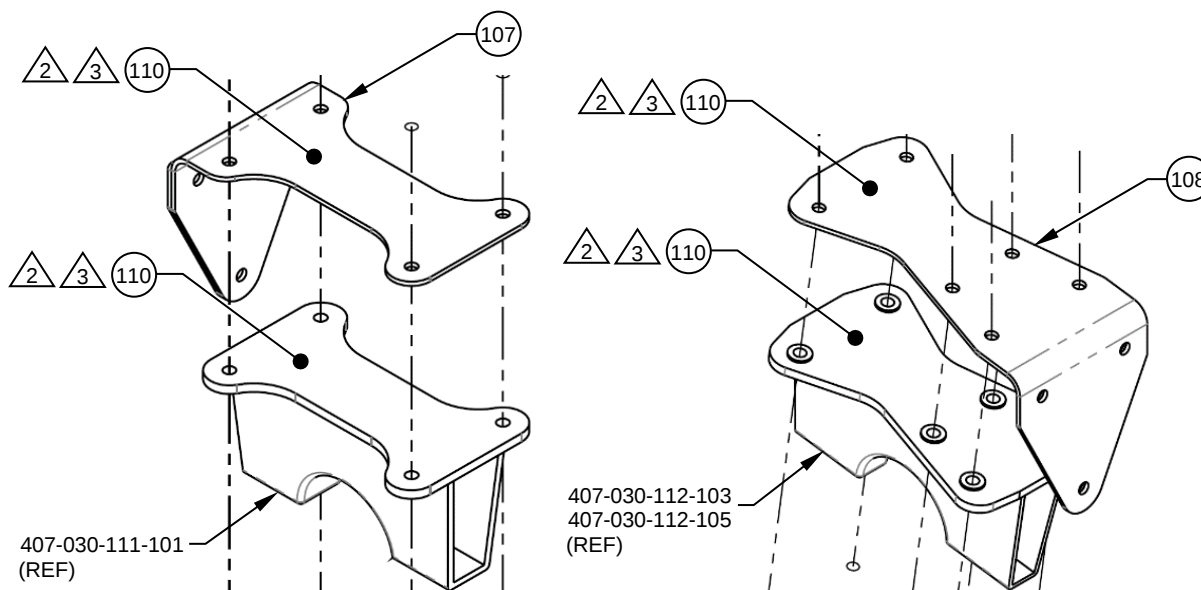

Figure 1
3. Apply Sealant, Corrosion Inhibitive, (Item 110), to the faying surfaces of the fittings and FWD and AFT Attachment Brackets (Items 107 & 108) per MIL-PRF-81733. Reference Figure 1.